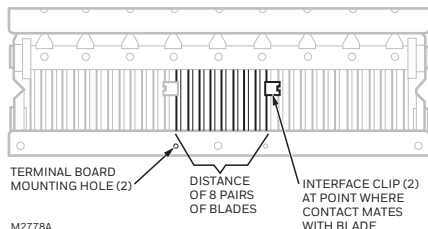

Fig. 1. Position the interface clips so the center of the clip is just outside the center line of the mounting holes.
2. Locate the two 0.132 in. (3.4 mm) holes in the frame rail on the top of the cell. See Fig. 1. These holes will be used to position the interface clips and attach the terminal board.
3. Position each of the two interface clips on a collector hot plate as shown in Fig. 1, and push down until seated.